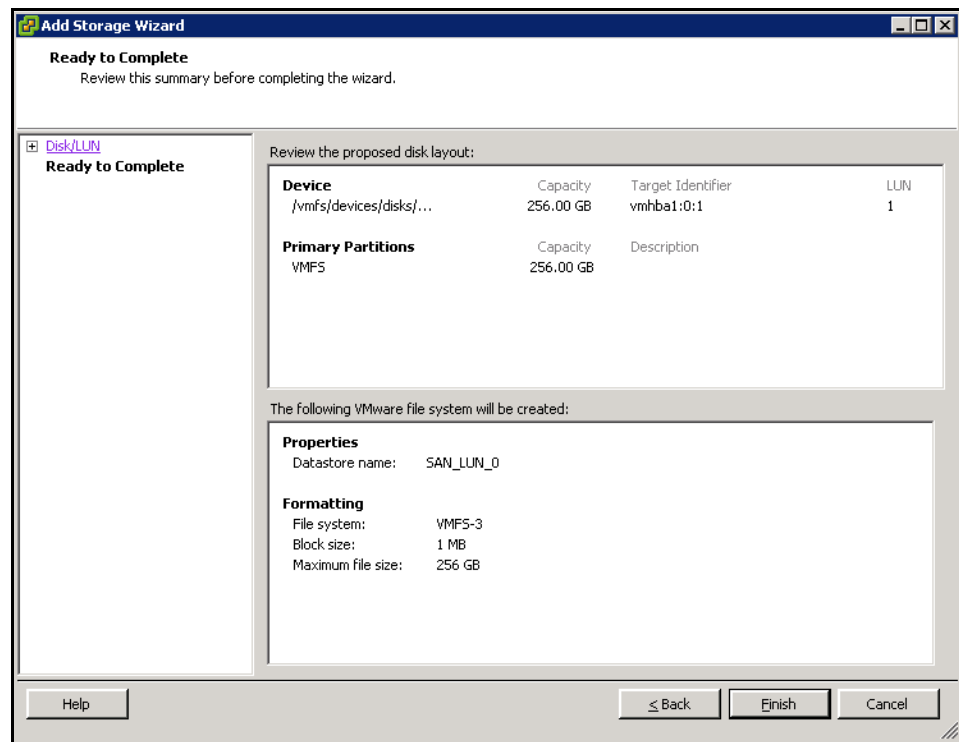

Figure 4-22: Ready to Complete Screen (Add Storage Wizard)
21. Click **Next**. The Ready to Complete screen appears (Figure 4-22 on page 4-19).